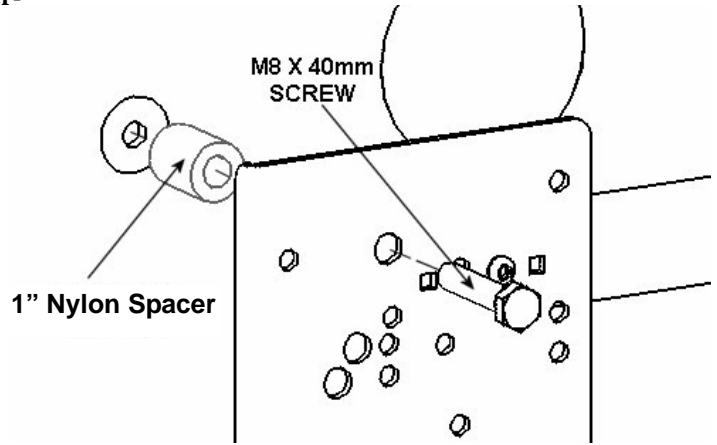
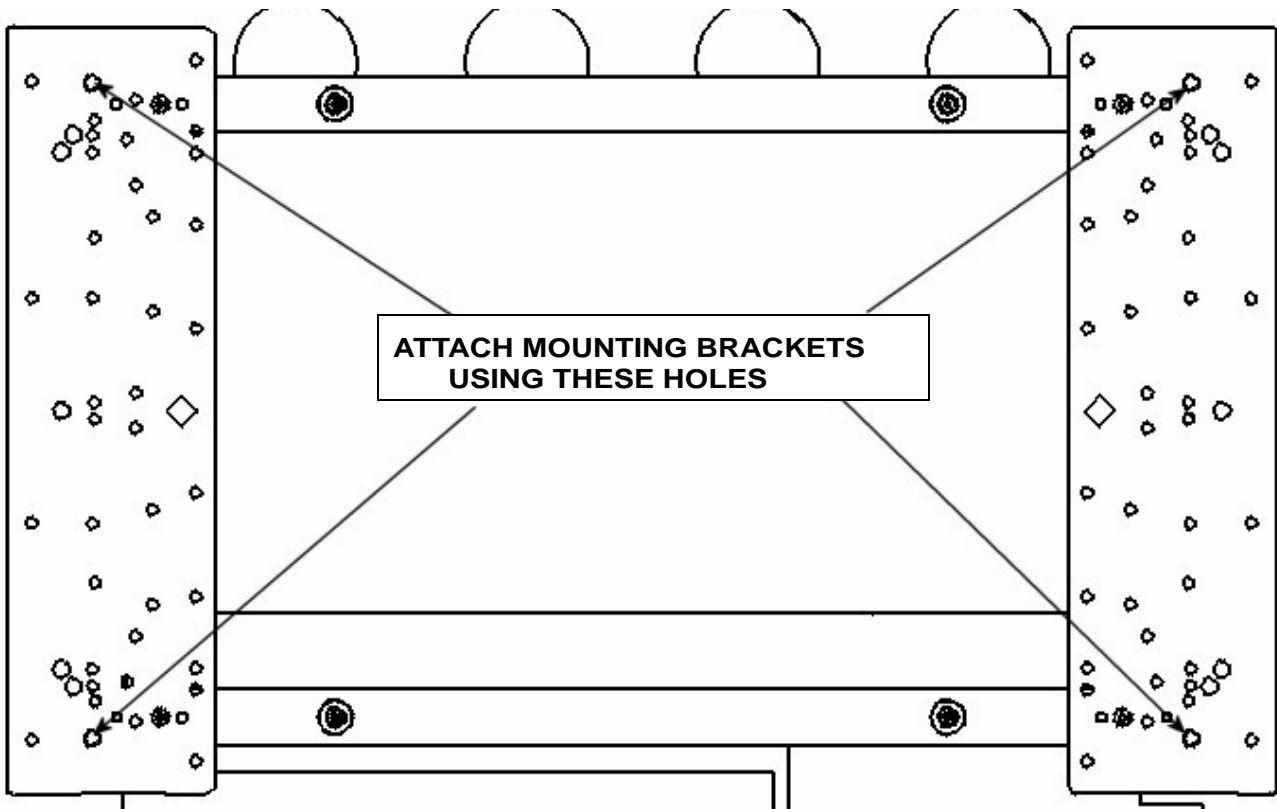

Figure 16. Spacer Installation for Group 6
Figure 17. Bracket Attachment for Group 6
4. Place the interface brackets over the Nylon spacers (see Figure 16 and Figure 17).
6. Using the hardware in the parts bag labeled B, attach the interface brackets to your display in the proper holes in each interface bracket (See Figure 16 and Figure 17). Do not overtighten the mounting screws.